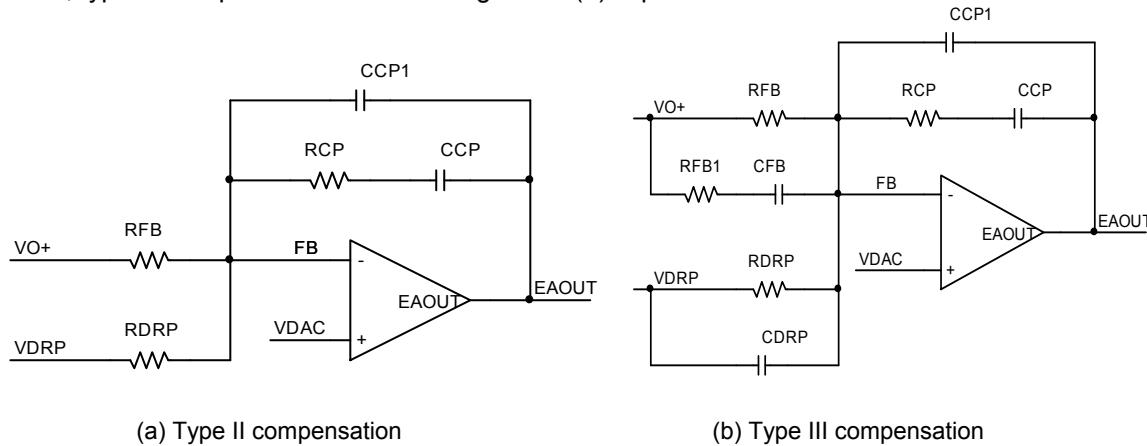

Figure 20: Voltage Loop Compensation Networks
Resistors R_{FB} and R_{DRP} are chosen according to Equations (15) and (16), and the selection of compensation type depends on the capacitors used. For the applications using Electrolytic, Polymer or AL-Polymer capacitors, type II compensation shown in Figure 20 (a) is usually enough. While for the applications with only ceramic capacitors, type III compensation shown in Figure 20 (b) is preferred.